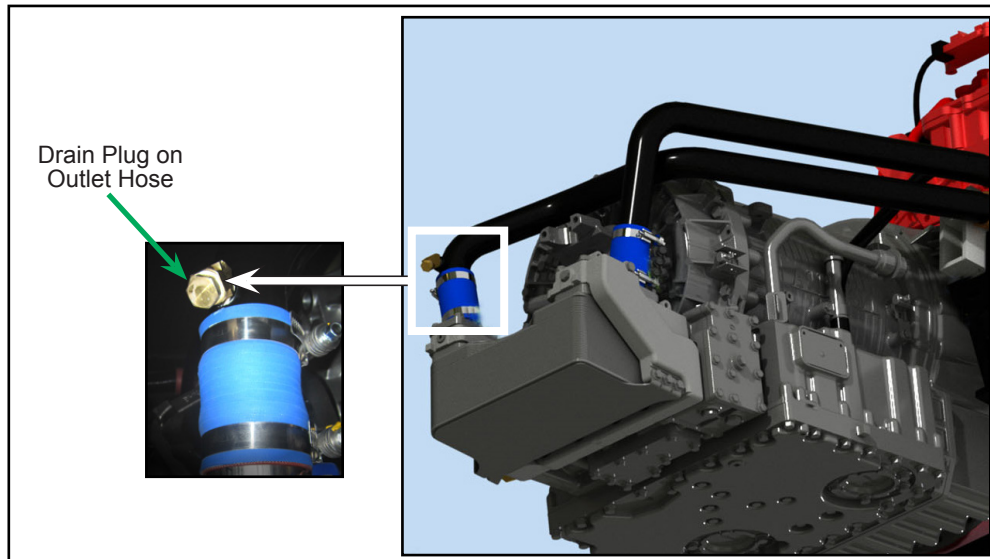

Figure 5 - Draining Point for Transmission
- 1.9. Remove the drain plug on transmission outlet hose (see Figure 5) and let the fluid drain in an appropriate container.